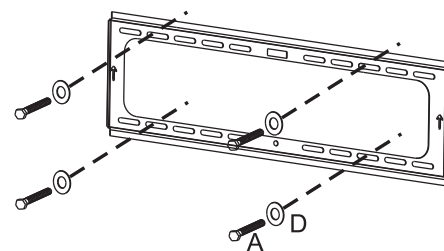

Figure 1 – Attach wall plate to wall.
4. Attach wall plate using coach screws (A) through round washers (D). Do not over tighten. See Figure 1.